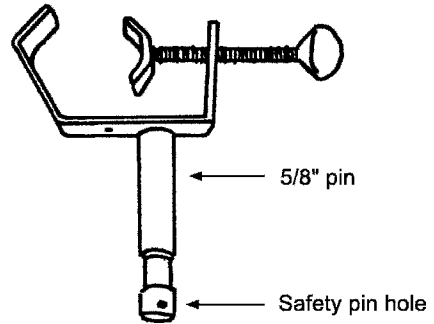

Figure 2.41 Matt pipe adapter.
1. The matt pipe adapter baby (Figure 2.41) is a simple yet effective means of securing a light or grip equipment to a pipe or tubing.